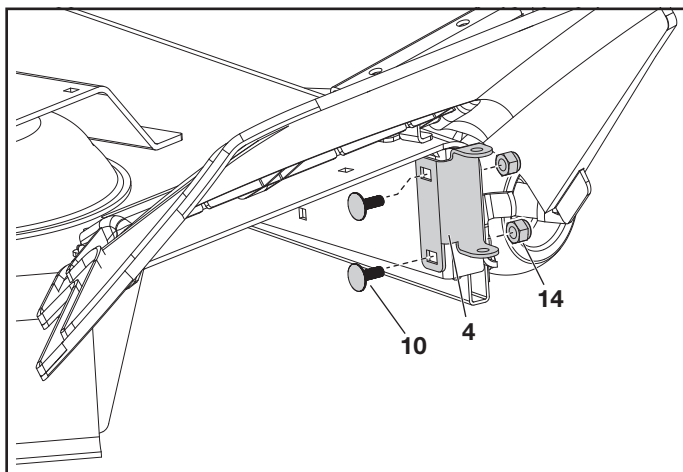

FIGURE 1
STEP 1: (SEE FIGURE 1)
- Position deck adapter (1) against mower deck opening. Position deck hinge (4) towards the front of the deck adapter as shown to determine placement of the hinge.
- Attach deck hinge using two 5/16" carriage bolts (10) and 5/16" nuts (14).